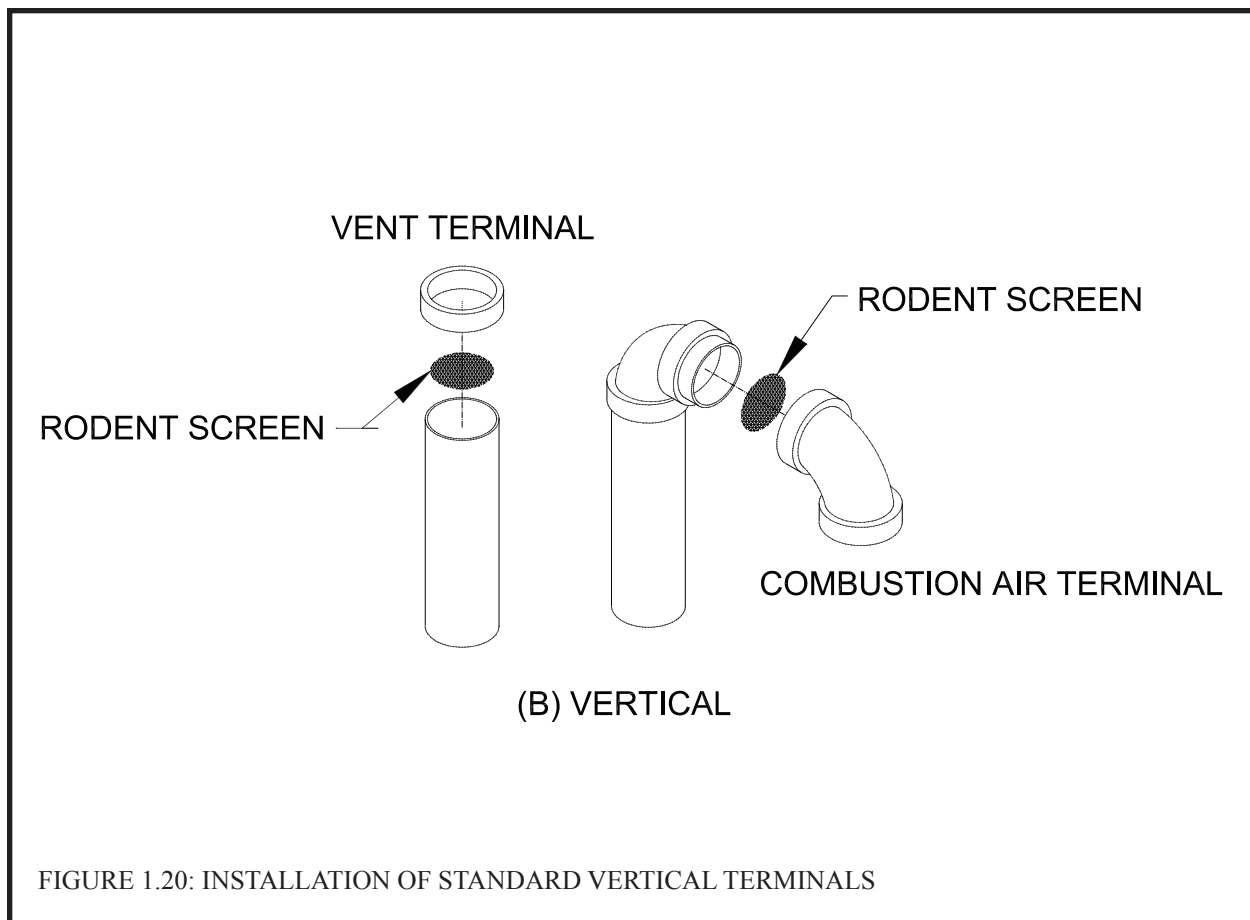

FIGURE 1.20: INSTALLATION OF STANDARD VERTICAL TERMINALS
- See Figure 1.20 for the proper orientation of twin pipe vertical terminals.
- A 180 bend (or two 90 elbows) are installed on the top of the air intake pipe. If two 90 elbows are used, the rodent screen provided can be installed between them (Figure 1.20). If a 180 bend is used, install the rodent screen in the open side of the bend, using a ring made of PVC pipe. (Figure 1.20). If desired, the termination fittings can be attached to the end of the vent and/or intake pipes with field supplied stainless steel screws so that they can be later removed for cleaning and inspection. If this is done, drill a clearance hole in these fittings and a tap hole in the end of the vent/intake pipes to accept these screws.